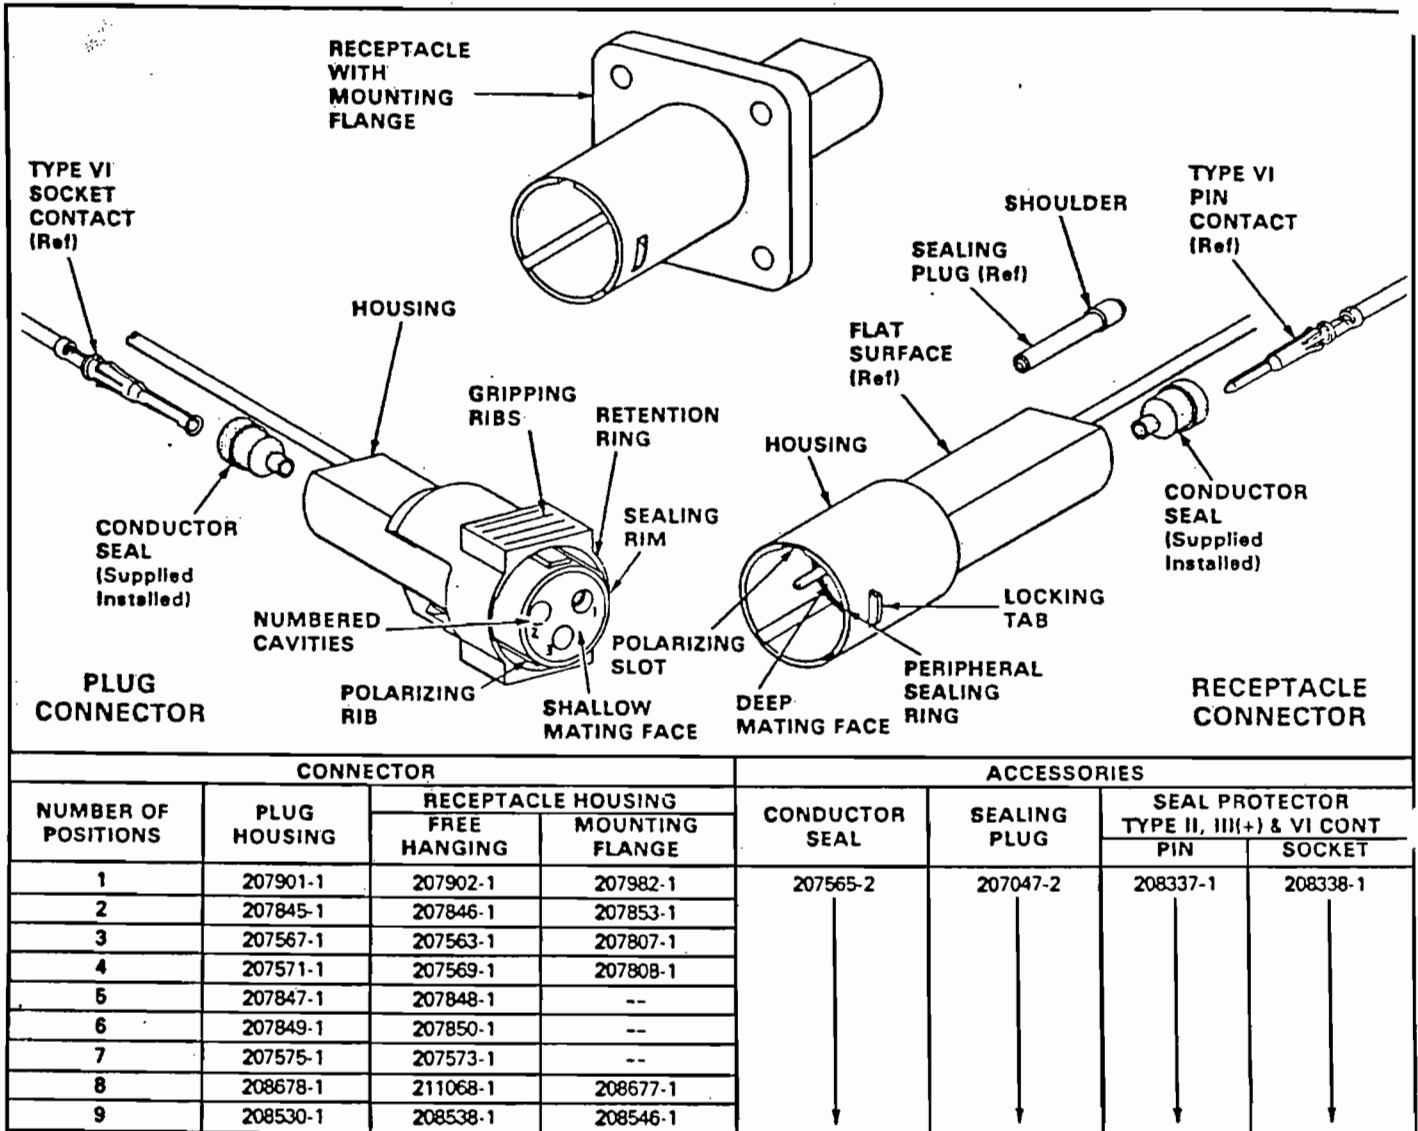

Fig. 1
This instruction sheet (IS) covers the components and assembly procedures of the AMP Econoseal Connectors. See Figure 1.
2. DESCRIPTION (Figure 1)
These polarized plug and receptacle connectors seal against normal environmental conditions. They are available with 1 through 9-contact position housings. Both the front (mating face) and back (contact entry) of the housings have numbered contact cavities. Free-hanging or panel-mounted applications can be made with the appropriate receptacle housing. See Figure 1.
The connectors will accept any of the contacts in the AMP Multimate Program that have a wire range of No. 18 through No. 14 AWG and an insulation range of .070 through .130 in. See Figure 1.
5. If the connector has more contact cavities than required for your application, seal the unused cavities by inserting a sealing plug into conductor seal until the shoulder seats on the seal. See Figure 1.